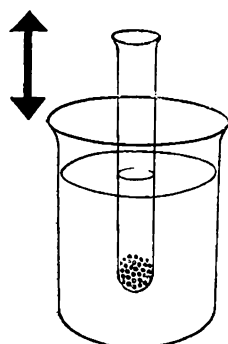

Fig. 330
- (e) A test tube loaded with (say) lead shot will vibrate up and down in water (Fig. 330).